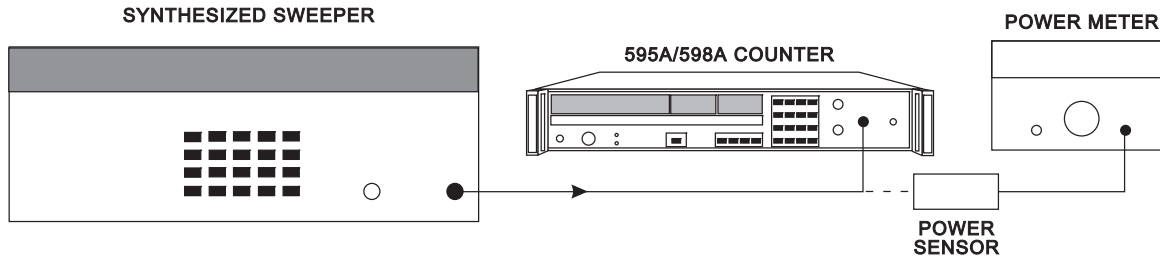

Figure 6-5. Band 2 Range and Sensitivity Test Setup
1. Connect the equipment as shown in **Figure 6-5**.